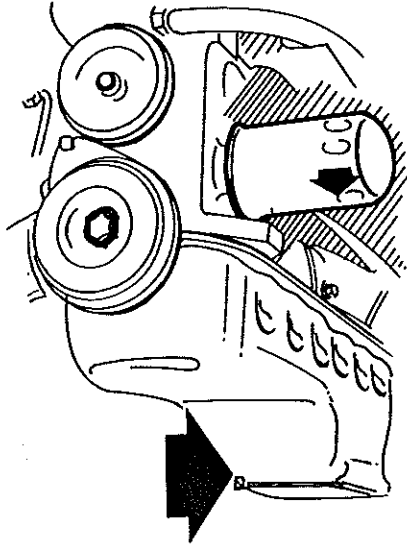

Fig. C-3
**6 CYLINDER ENGINE:** The drain plug is located at the right hand side rear of the sump. Fig. C-3.
**6 CYLINDER ENGINE:** Mounted on the left hand side front of the cylinder block. Fig. C-3.